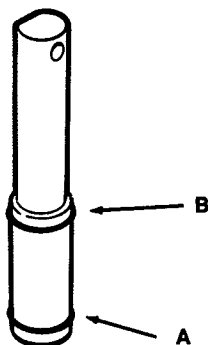

Figure 34. Spigot "O" Ring Removal
- M. Remove "O" ring (A) from the bottom of the spigot and "O" ring (B) from the top of the spigot. (See Fig. 34.)